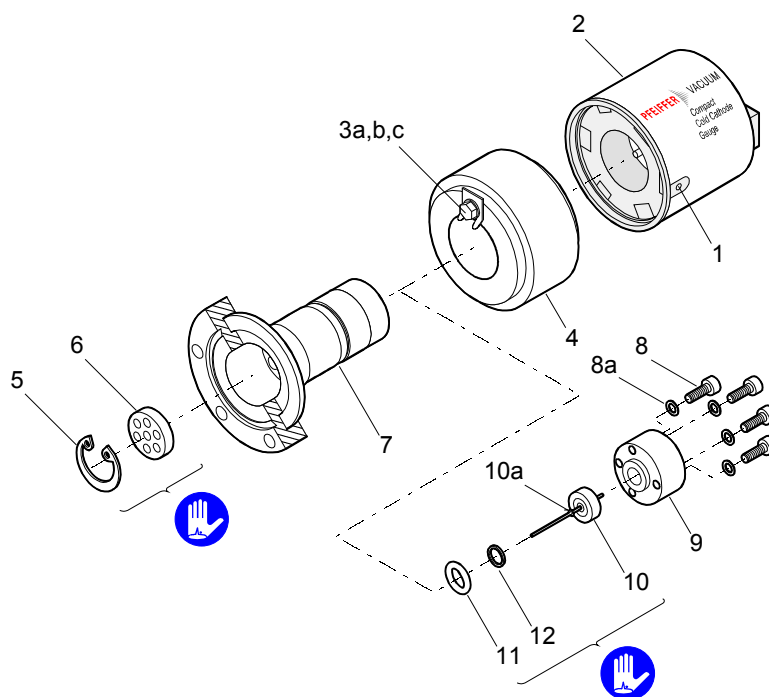

Figure 3
- Unfasten the hexagon socket set screw (1) on the side of the electronics unit (2) (→ Figure 3).
- a) Remove the old ignition aid (10a) with tweezers (→ Figure 3).
- a) Insert the Viton seal (11) with the support ring (12) centered into the measuring chamber. The sealing surface, seal, and ceramic part must be clean (→ Figure 3).
- b) Carefully insert the anode (10) incl. ignition aid (10a) into the measuring chamber.
- c) Carefully place the pressure piece (9) on the measuring chamber and tighten it **uniformly** with the four (or two) hexagon socket screws (8) incl. lock washers (8a) until the stop position is reached.
- f) Slide the polarity insert (6) into the measuring chamber up to the mechanical stop.
g) Place the circlip (5) snugly fitting on the polarity insert.